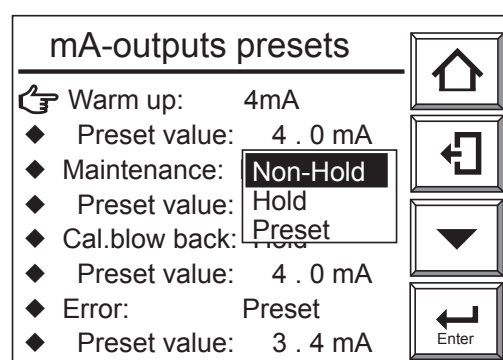

Figure 8.2 Selecting Maintenance
- (1) Press the [Setup] key in the Basic panel display to display the Execution/Setup display. Then select “Commissioning” in the Execution/Setup display. Next, select the “mA-output setup” and then the “mA-outputs presets” display as shown in Figure 8.2.
- (2) From this display (Fig. 8.2), select the desired display. Figure 8.3 shows an example of selecting “Maintenance”. Select the desired output status.
- (3) If a preset value is selected, set the corresponding output current. If you select a preset value just below Maintenance on the screen, the numeric-data entry display will appear. Enter the current value you want. To set 10 mA, type in 010 and press the [Enter] key to complete the setting. The setting range is from 2.4 to 21.6 mA.